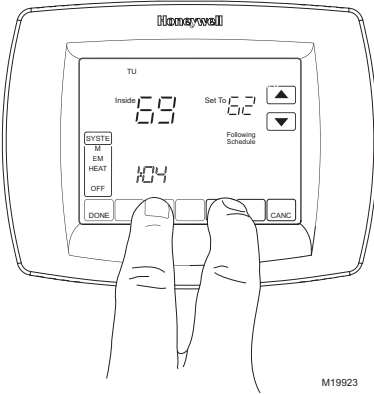

Fig. 26. Entering Installer Setup.
2. Press and hold the two blank keys on either side of the center blank key for approximately five seconds. (See Fig. 26.)